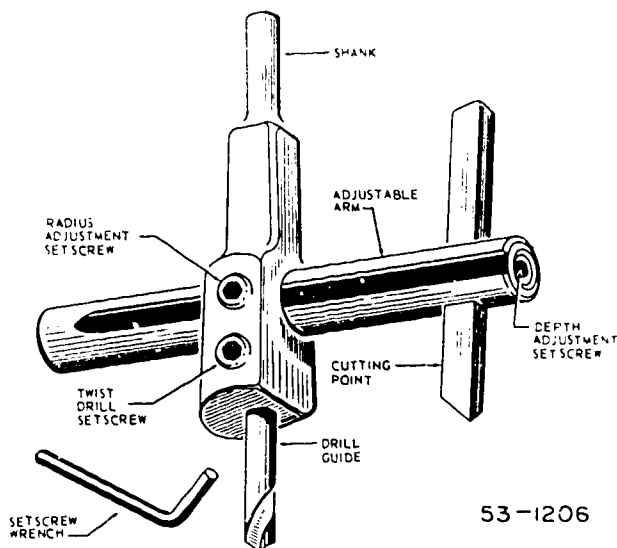

Figure 1-22. Circle cutter.
**Circle Cutters.** Circle cutters, like that illustrated in figure 1-22 are used with drill presses in a similar manner and purpose as hole saws. However, the circle cutter differs from the hole saw in that the circle cutter may be adjusted for different sizes and depths of cuts. In figure 1-22, you can see the setscrew wrench, which is used to loosen and tighten the setscrews or to remove the twist drill. The adjustable arm enables the circle cutter to be used for cutting circles of different sizes, and raising or lowering the cutting blade makes it possible to regulate the depth of the